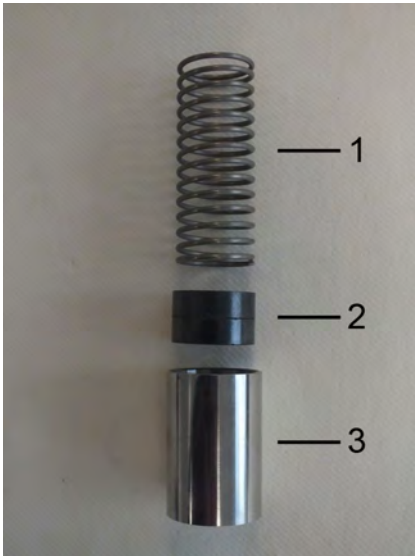

Fig. 61: Inner parts
- 8.**  Insert spring (Fig. 61/1) with magnets (Fig. 61/2) into the float (Fig. 61/3) ensuring proper magnetic pole orientation (north pole toward device outlet).